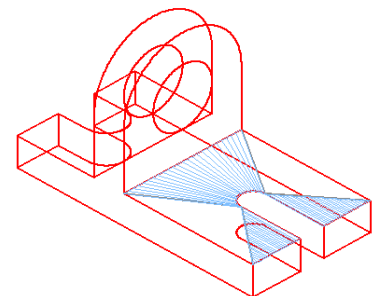

Figure Step 13
Step 13 On layer Surface, use the RULESURF command to insert the surfaces as shown in Figure Step 13. Change the surfaces the layer Surface off.